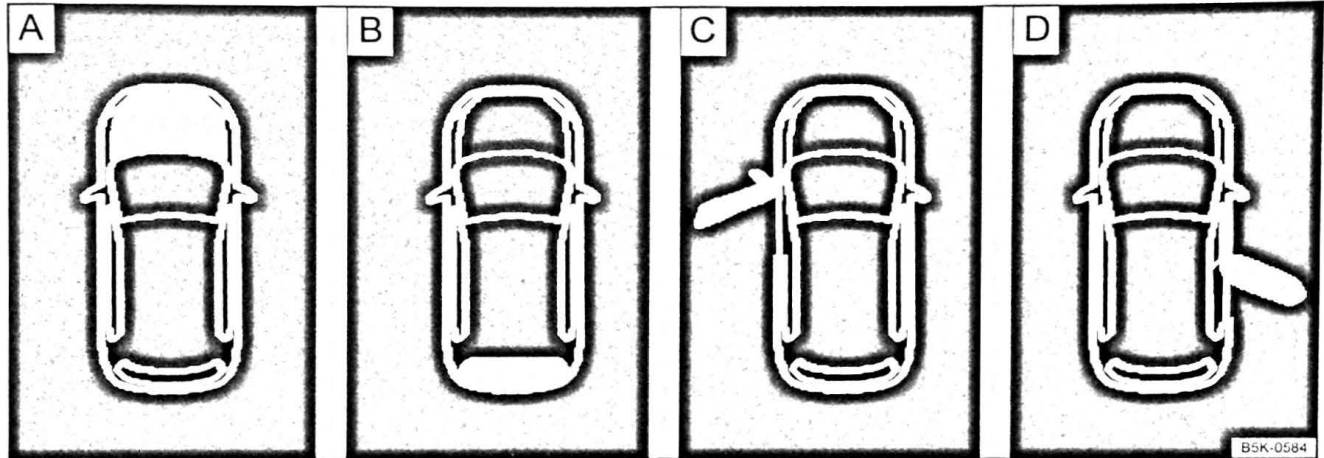

Fig. 13 A: bonnet open, B: tailgate open, C: front left door open, D: right rear door open (only in four-door vehicles)
- Open doors, bonnet and tailgate  $\Rightarrow$  Fig. 13